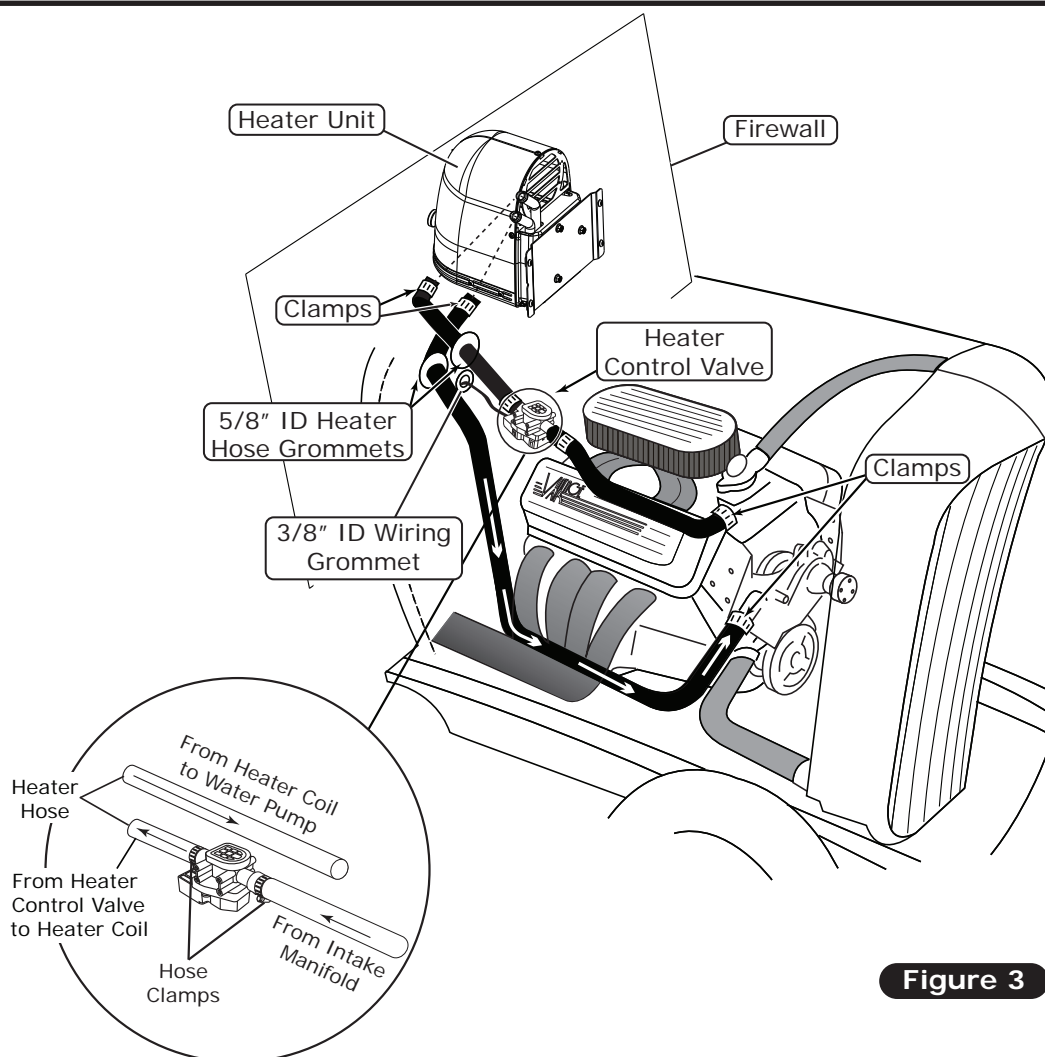

Figure 3
1. Once the heater is in the desired location, prepare two heater hoses and find a location in the firewall to run the hoses and the heater control valve connector through. If drilling new holes, you must drill (2) 1 1/4" holes for the heater hose grommets and (1) 5/8" hole for the wiring grommet. **NOTE: Be sure to find a good location for the heater hose's holes, making sure that the hoses will not be kinked after installing it on the heater lines. Remove the rubber plugs from the heater nipples before connecting the hoses. Coil is shipped under pressure, be careful when removing the rubber plugs from the heater.**
3. Insert a rubber grommet onto the heater hose and route it from the water pump to the bottom heater coil line as shown in Figure 3, below, and secure using (2) hose clamps.
4. Insert a rubber grommet onto the heater hose and route it from the intake to the top heater coil line as shown in Figure 3, below. Secure using (2) hose clamps (See Figure 3, below).
5. Reinstall the heater unit using the provided (4) button head screws.
6. From the engine compartment, cut the intake heater hose approximately 5" from the firewall and install the heater control valve in-line with the proper flow direction using (2) hose clamps (See Figure 3, below). **NOTE: Do not overtighten clamps.**